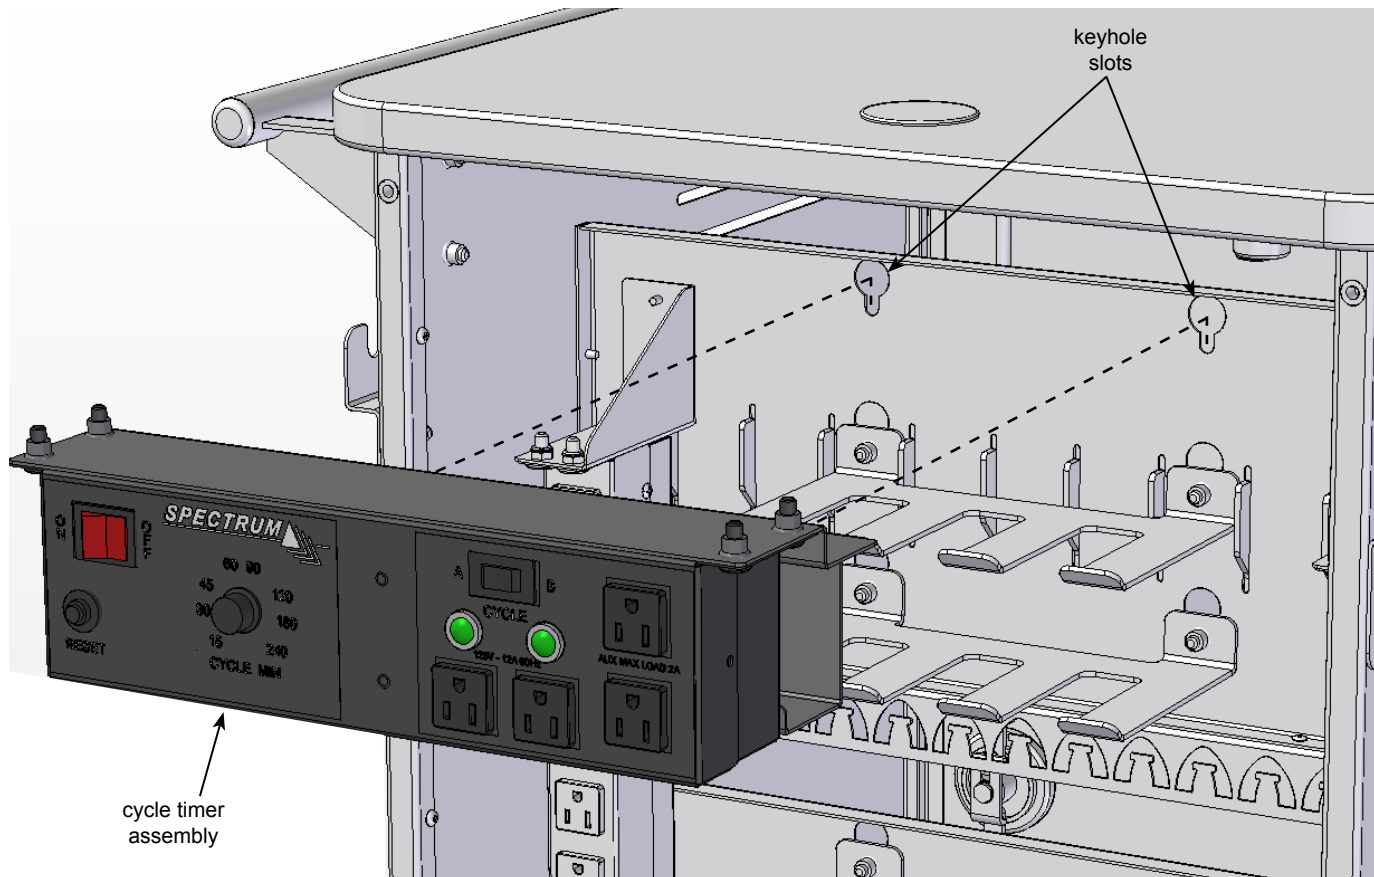

Figure 3
1. Set the cycle timer assembly with installed JC bolts into the keyhole slots. **Figure 3.**